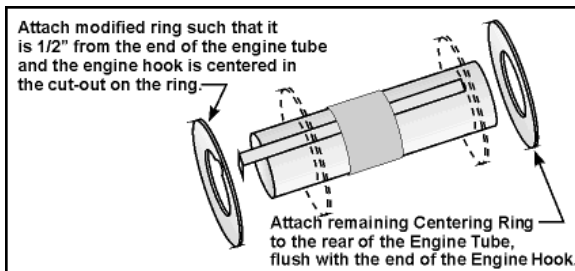

Figure 4
- Make a mark on the Engine Tube $\frac{1}{2}$ " from the end where the hook is protruding. Glue the modified Centering Ring in place at the $\frac{1}{2}$ " mark with the engine hook centered in the cutout area, and the remaining ring at the other end, against the Engine Hook, as shown in **Figure 4**. Be sure that the ring with the cutout for the Engine Hook goes in the proper position. Run a bead of glue on both sides of each Centering Ring. Let this dry.